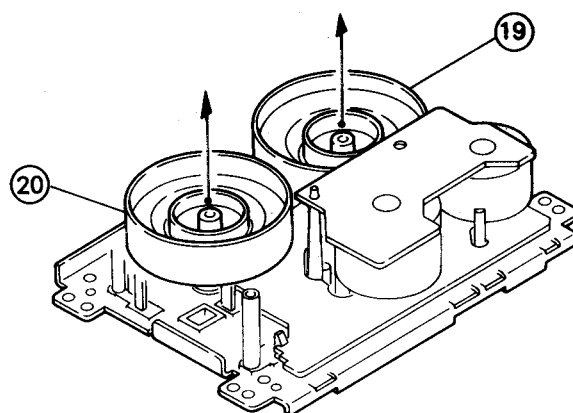

Fig. 7-29
6. After dismounting the belt (38), remove the flywheels (19) and (20) (Refer to Figs. 7-29 and 7-30).